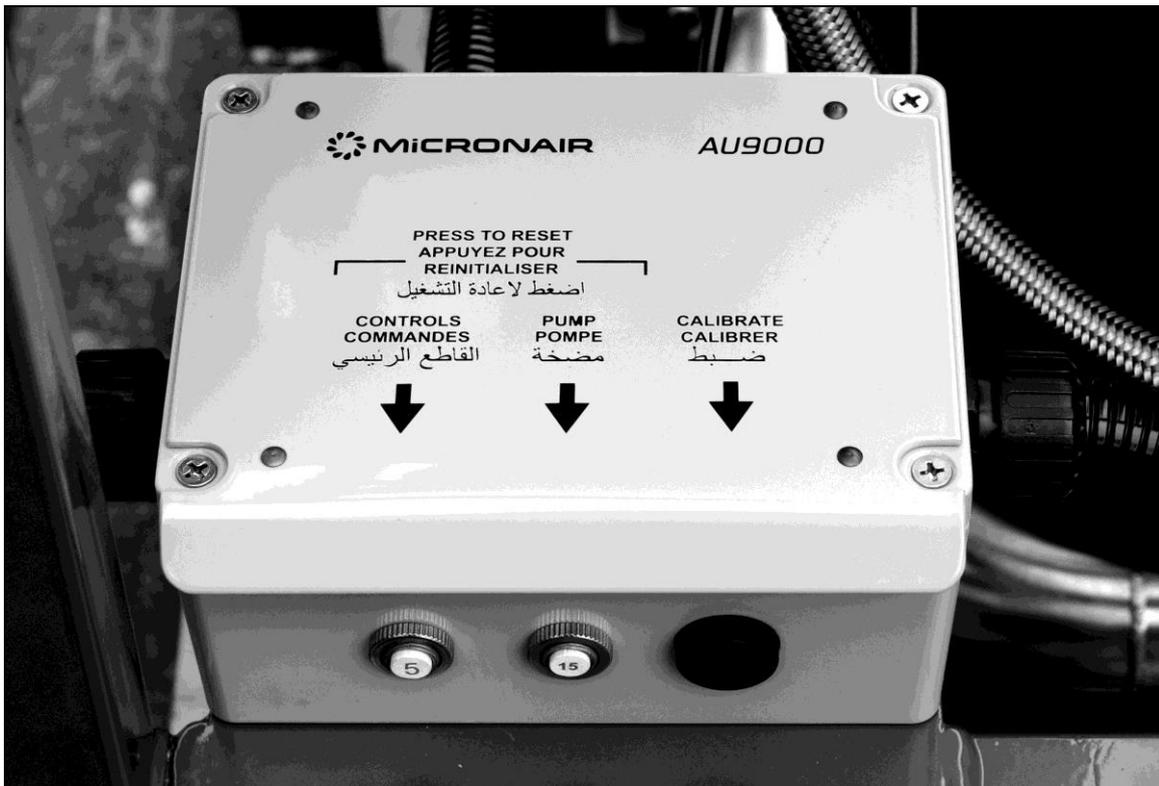

Fig. 4 – Calibration Switch on Junction Box
7. Press and hold the **Calibrate** switch on the box at the right hand side of the sprayer (see Fig. 4) until a steady stream of insecticide comes from each sprayhead.